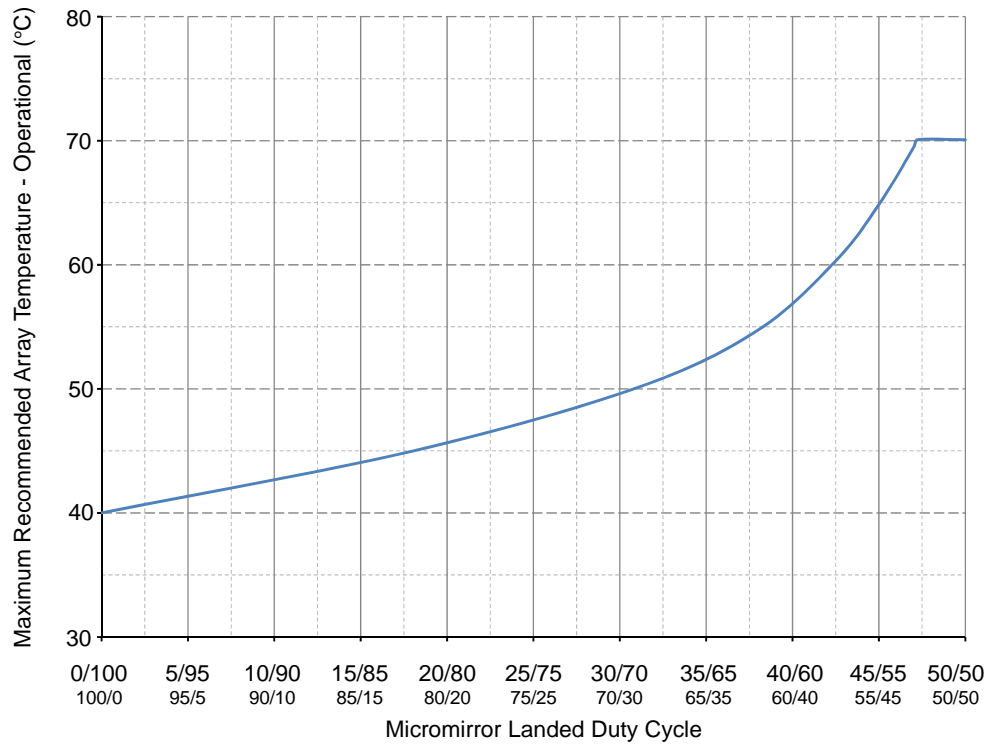

Figure 1. Maximum Recommended Array Temperature - Derating Curve
(13) Per Figure 1, the maximum operational array temperature should be derated based on the micromirror landed duty cycle that the DMD experiences in the end application. See Micromirror Landed-On/Landed-Off Duty Cycle for a definition of micromirror landed duty cycle.
(14) Long-term is defined as the usable life of the device.
(15) Array temperatures beyond those specified as long-term are recommended for short-term conditions only (power-up). Short-term is defined as cumulative time over the usable life of the device and is less than 500 hours.